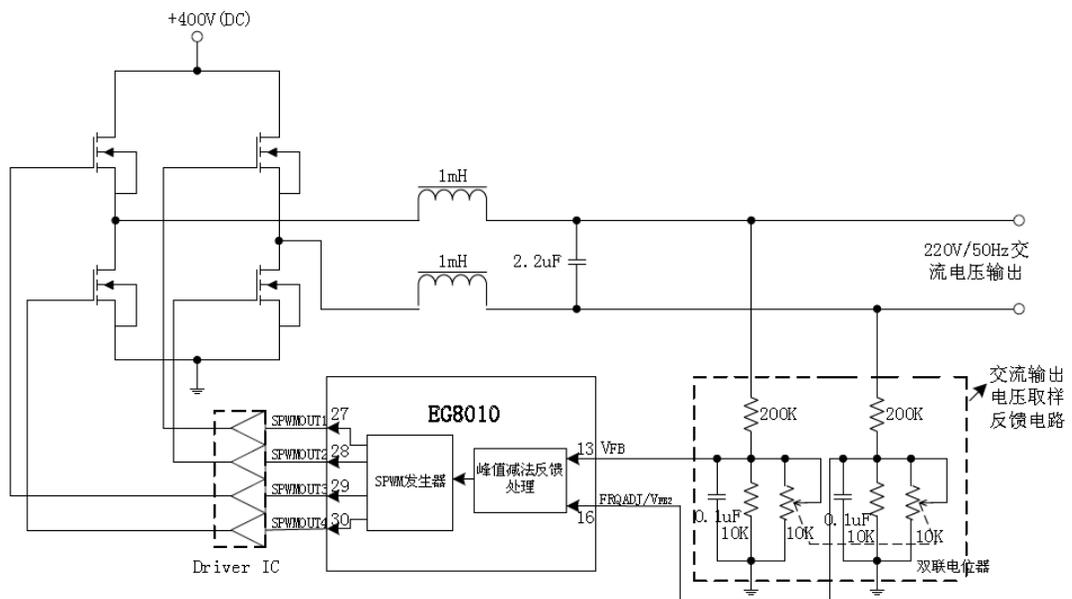

Figure 8.1c EG8010 the bipolar modulation output voltage feedback circuit
Bipolar modulation mode, the the EG8010 chip voltage feedback process is to measure the right leg of the output voltage via pin (13) the VFB measuring the left leg of the output voltage and the pin (16) FRQADJ/VFB2 VFB2 function only this when FRQADJ FM function is disabled, the circuit structure shown in Figure 8.1c voltage feedback section, two differential feedback to measure peak differential voltage and internal reference sine wave peak voltage of 3V error calculation, a corresponding adjustment to the value of the output voltage, the internal circuit error multiplier coefficients of adjustment factor value calculated to achieve the regulation process, bipolar modulation can also be adjusted to a desired output voltage within 1-3 AC cycle.